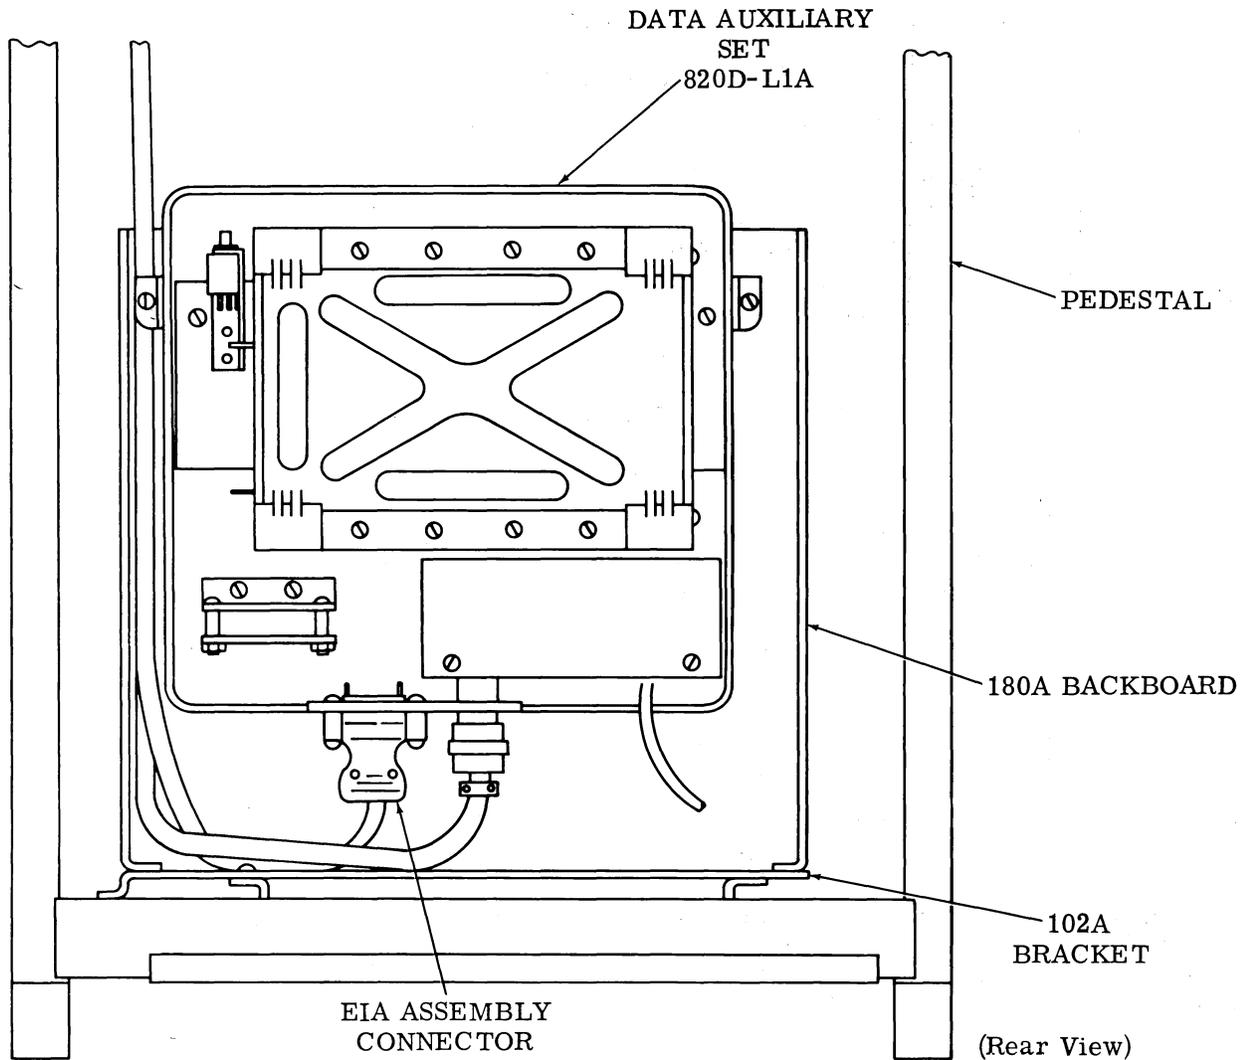

Figure 4 - Mounting of DAS 820D-L1A on M33 Set
5.12 For the data set 108 type install the 102A bracket, 180A backboard, and DAS 820D-L1A inside the pedestal as follows (Figure 4):
(d) Loosen spring clips on 180A backboard and position DAS 820D-L1A as shown in Figure 4.